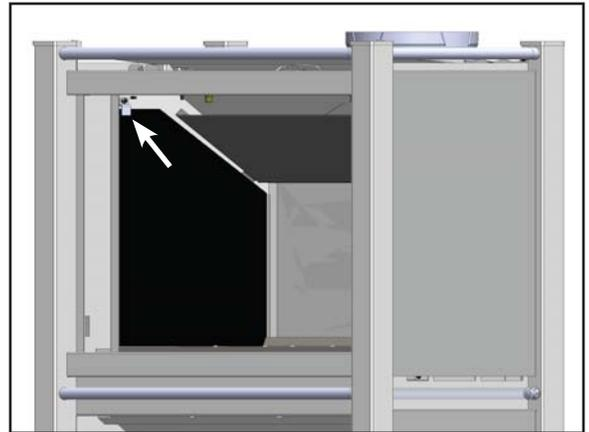

Fig.12
7. Loosen the top left tab as shown by arrow, install the left glass up under the tab and onto the support. (Fig.12) **NOTE: THE SIDE WITH LABEL SHOULD BE FACING FIREBOX, REMOVE BEFORE FIRING. HANDLE GLASS CAREFULLY BY THE EDGES, DO NOT LEAVE FINGERPRINTS, CLEAN IF NECESSARY.**